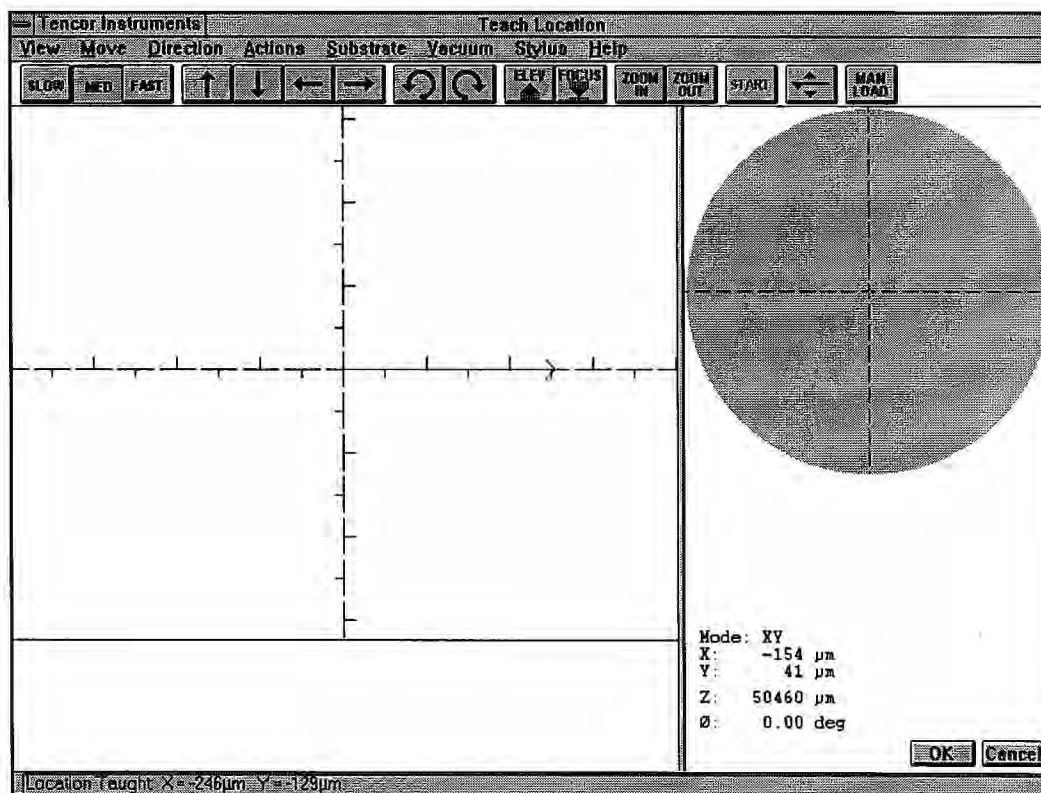

Figure 8-9 Teach Location Window
1. Double-click on the Base Angle step in the sequence list. The Teach Location window appears (Fig. 8-9).